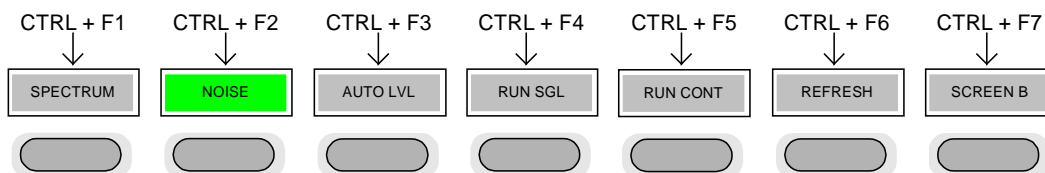

Figure 1-5 Quick Access to Hotkeys
Used to activate hotkeys. Each of the seven hotkeys is allocated a different function (F) key. To access these hotkeys press CTRL and the corresponding F key together (see Figure 1-5):